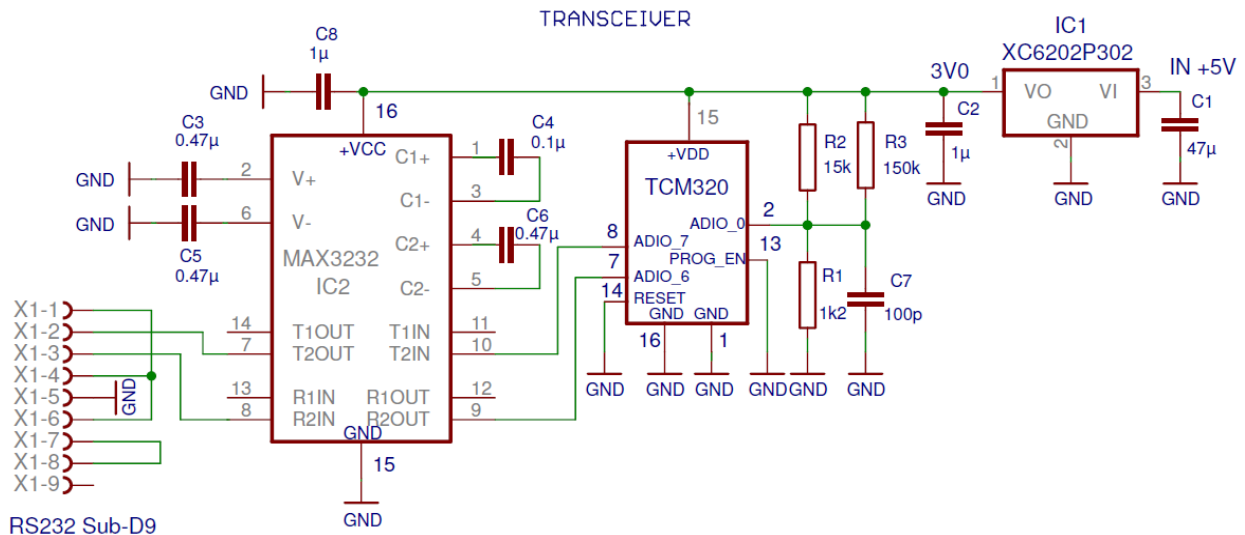

Fig.3: RS232 Interface using TCM 320(C). Using ADIO_1 and ADIO_2 inputs like illustrated in Fig.2 the additional repeater functionality can be realized.
c. Serial Interface: one of the most common applications is the EnOcean serial interface. If you use the standard TCM 300(C) / 320(C) modules (ESP2) this can be easily implemented as shown in the example in Fig. 3, bidirectional serial interface (ESP2), Mode 1.